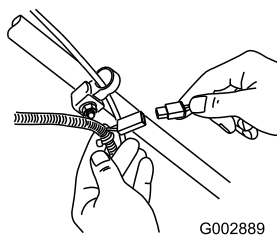

Figure 20
1. Connect the charger to the mower wire harness located below the ignition key (Figure 20).